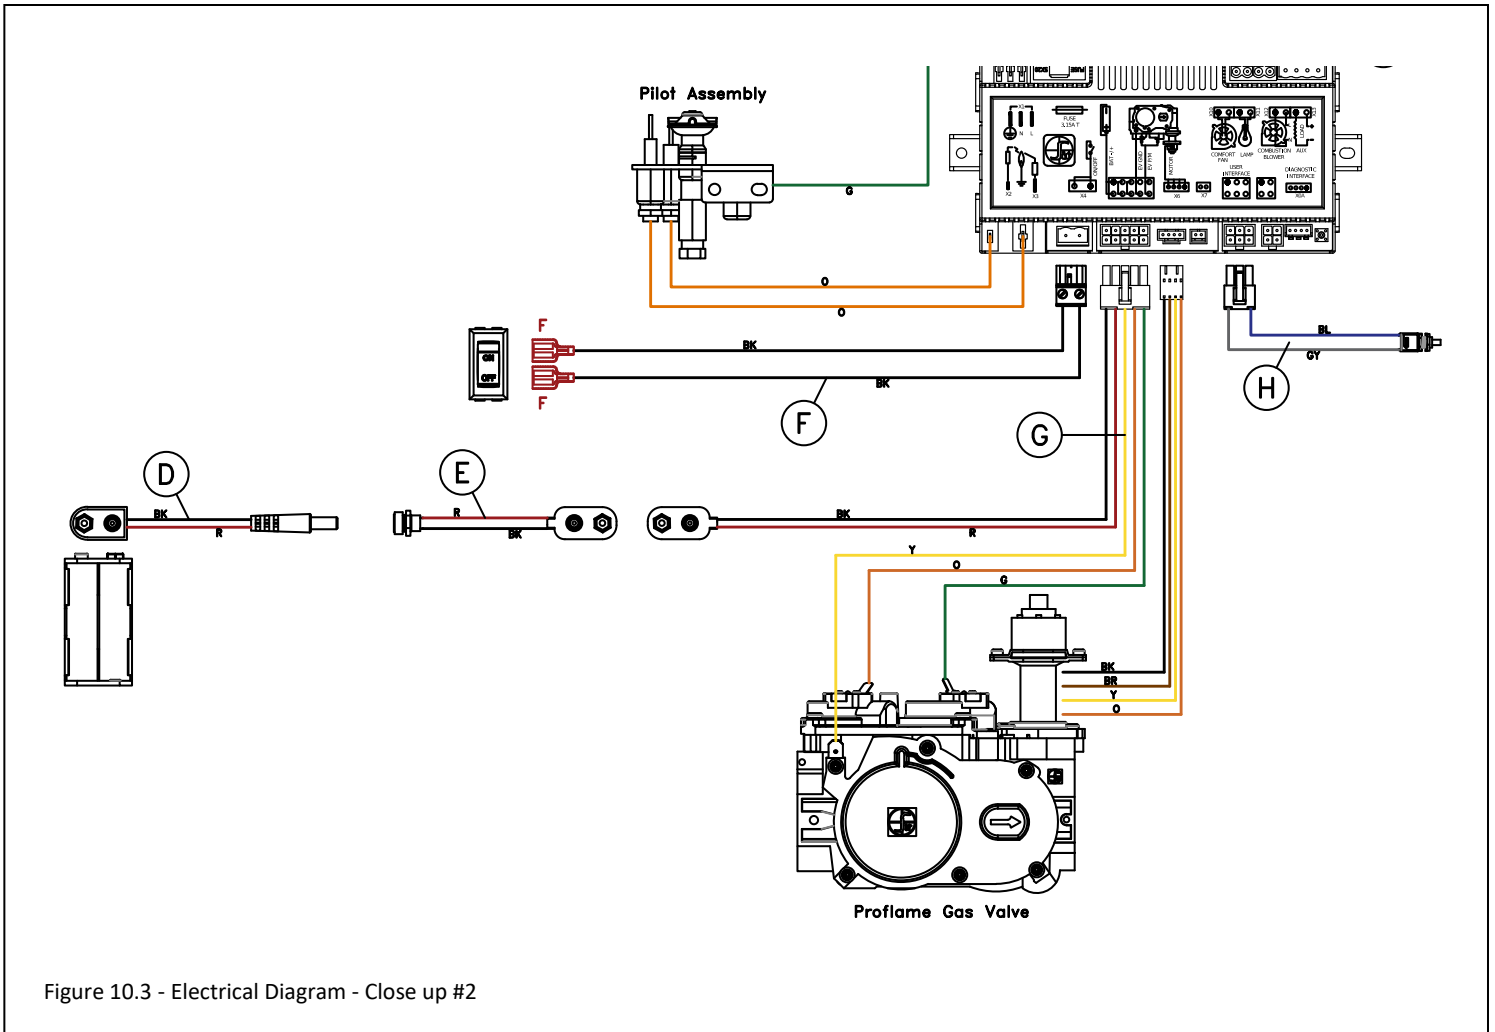

Figure 10.3 - Electrical Diagram - Close up #2
- Figure 10.3 shows a close up of the wiring diagram. This figure shows the pilot assembly, on / off rocker switch, battery back-up, valve, and remote learn button